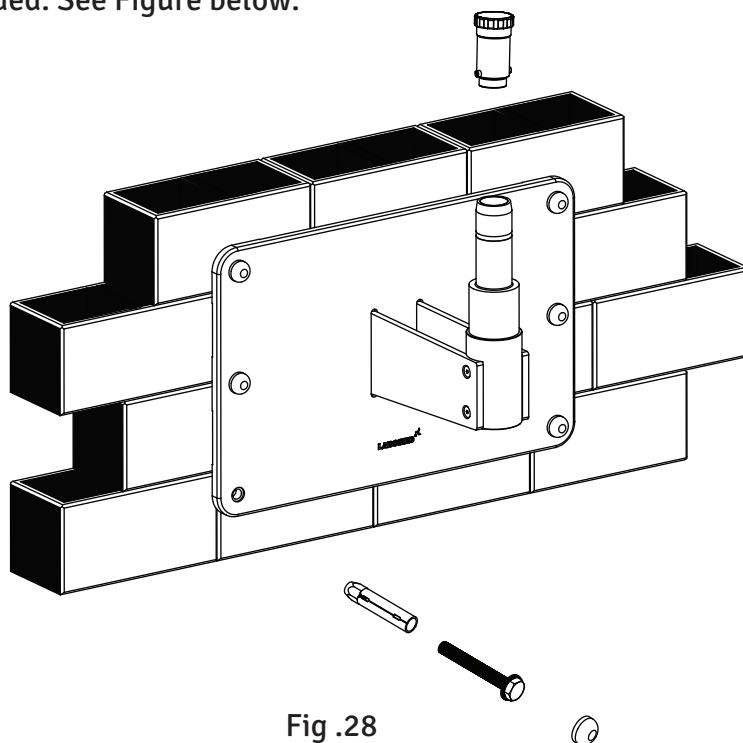

Fig .28
3. Assemble the Arm on wall mount shaft referring fig.28 and Reinstall the threaded plug into place.